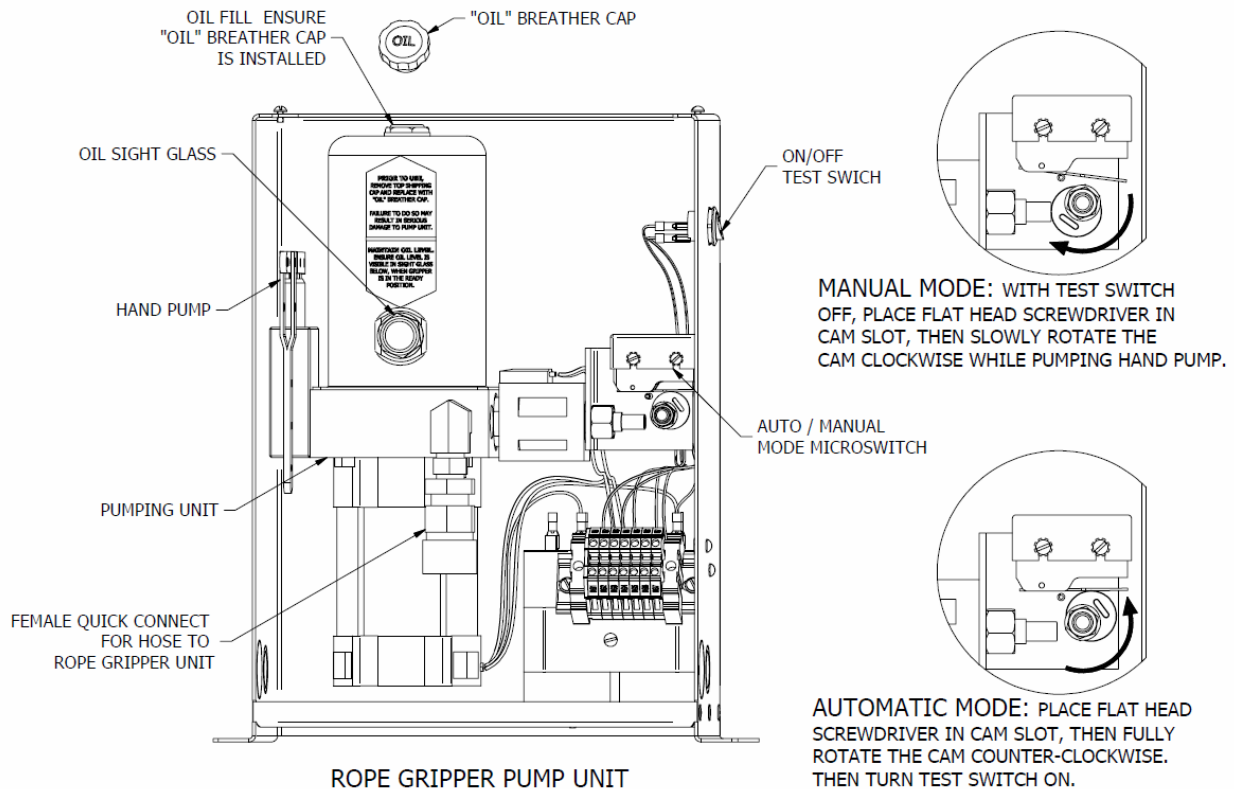

FIGURE 4
- When wiring and hydraulic connections are complete, make sure valve stem (dump valve) in pumping unit is set to AUTOMATIC. Turn pumping unit test switch ON (see **Figure 4**). The gripper Latch solenoid should energize and push the trigger onto the latch. If it fails to do so, check control wiring.